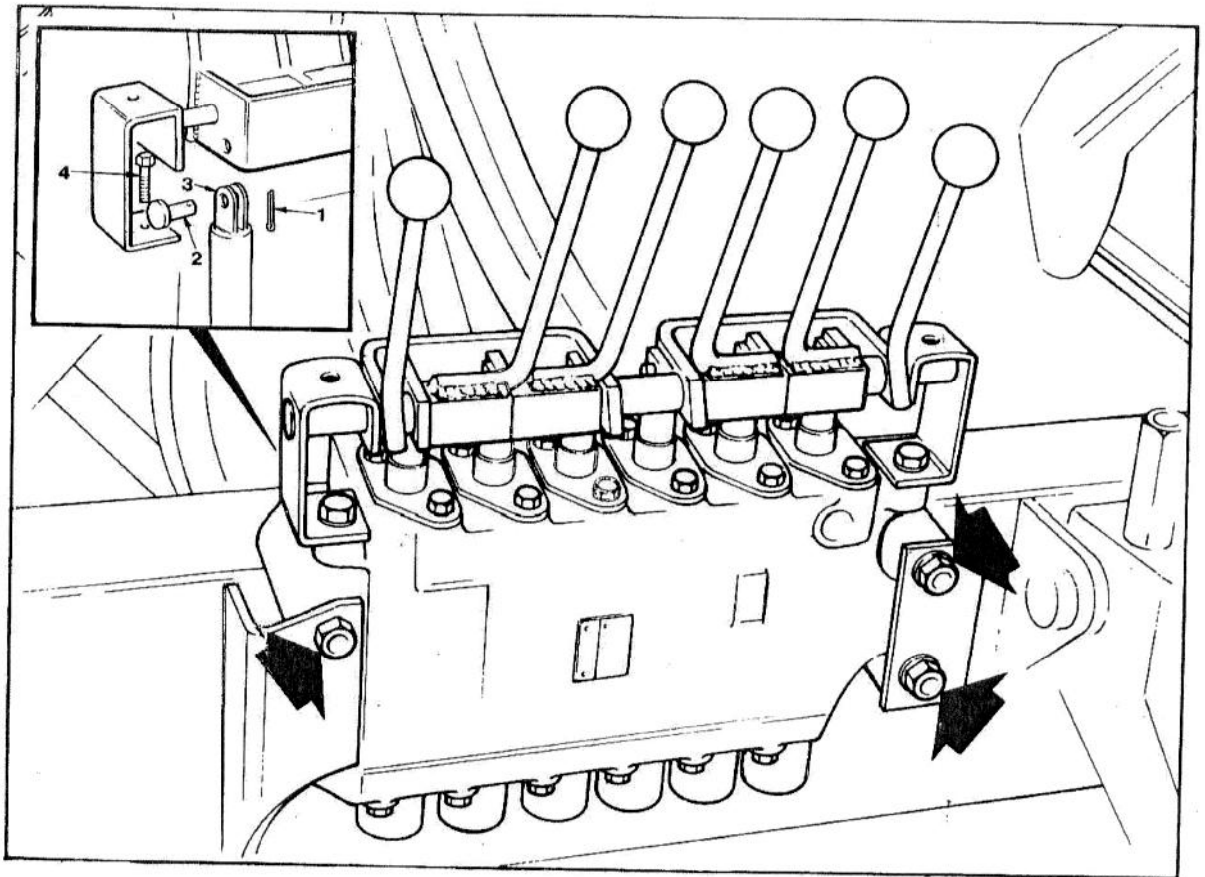
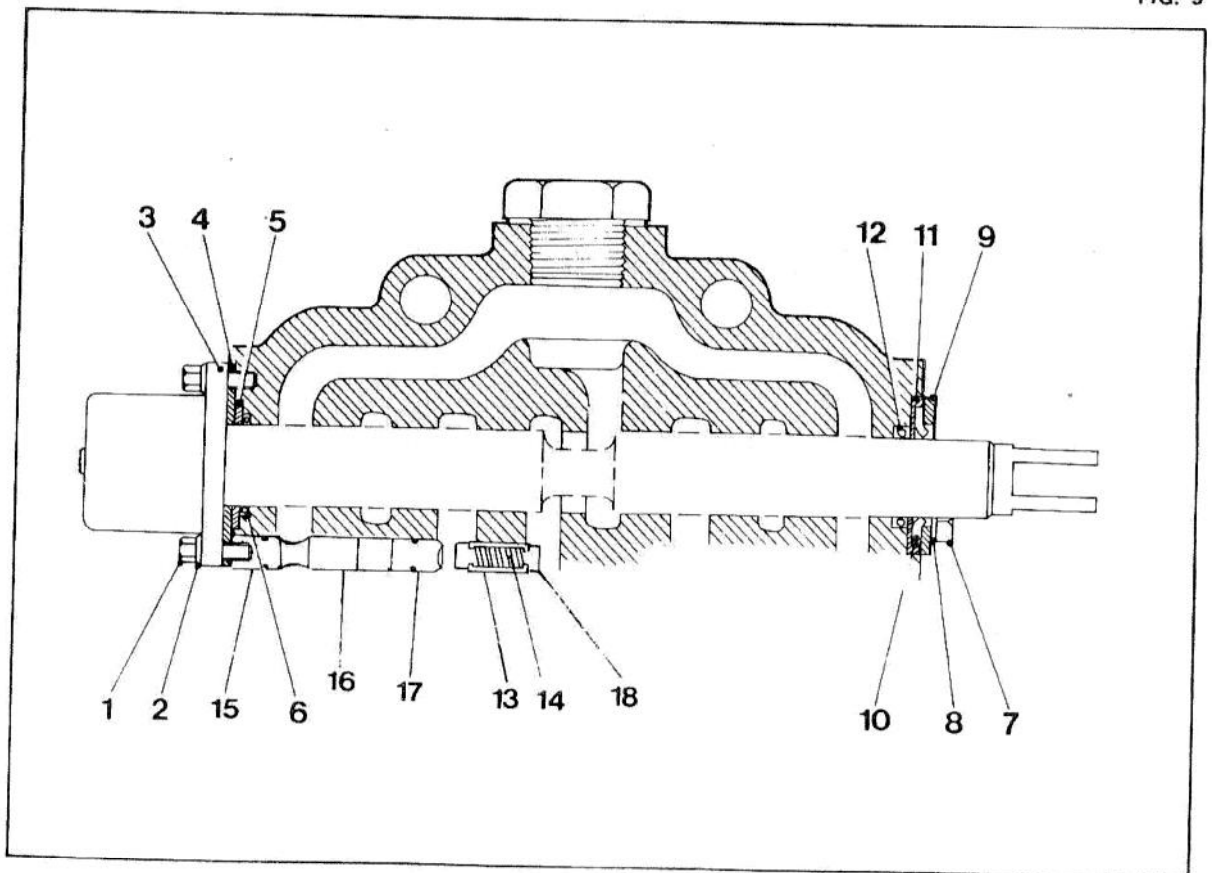

FIG. 9
FIG. 10
3. (Fig 9). Remove the three securing bolts and lift the valve clear.
1. (Fig. 9). Remove the split pins (1) and linch pins (2) which connect the links (3) to the spools.
2. Unfasten and remove the two screws (4) and remove the complete handle assembly from the valve.
3. (Fig. 10). Remove the setscrews (1) and washers (2) which secure the cap (3) and cover spacer (4) then withdraw the spool complete with centering device, retainer (5) and seal ring (6).
4. Remove all other spools as per item 3.
5. (Fig. 10). Replace the cover spacer (4), seal (6) and seal retainer (5) on the spool and replace the spool in the correct bore.
6. Replace the cover (3) and secure with the setscrews (1) and washers (2).
8. Replace the seal (12), seal retainer (11), wiper (10), wiper retainer (9), washers (8) and setscrews (7).